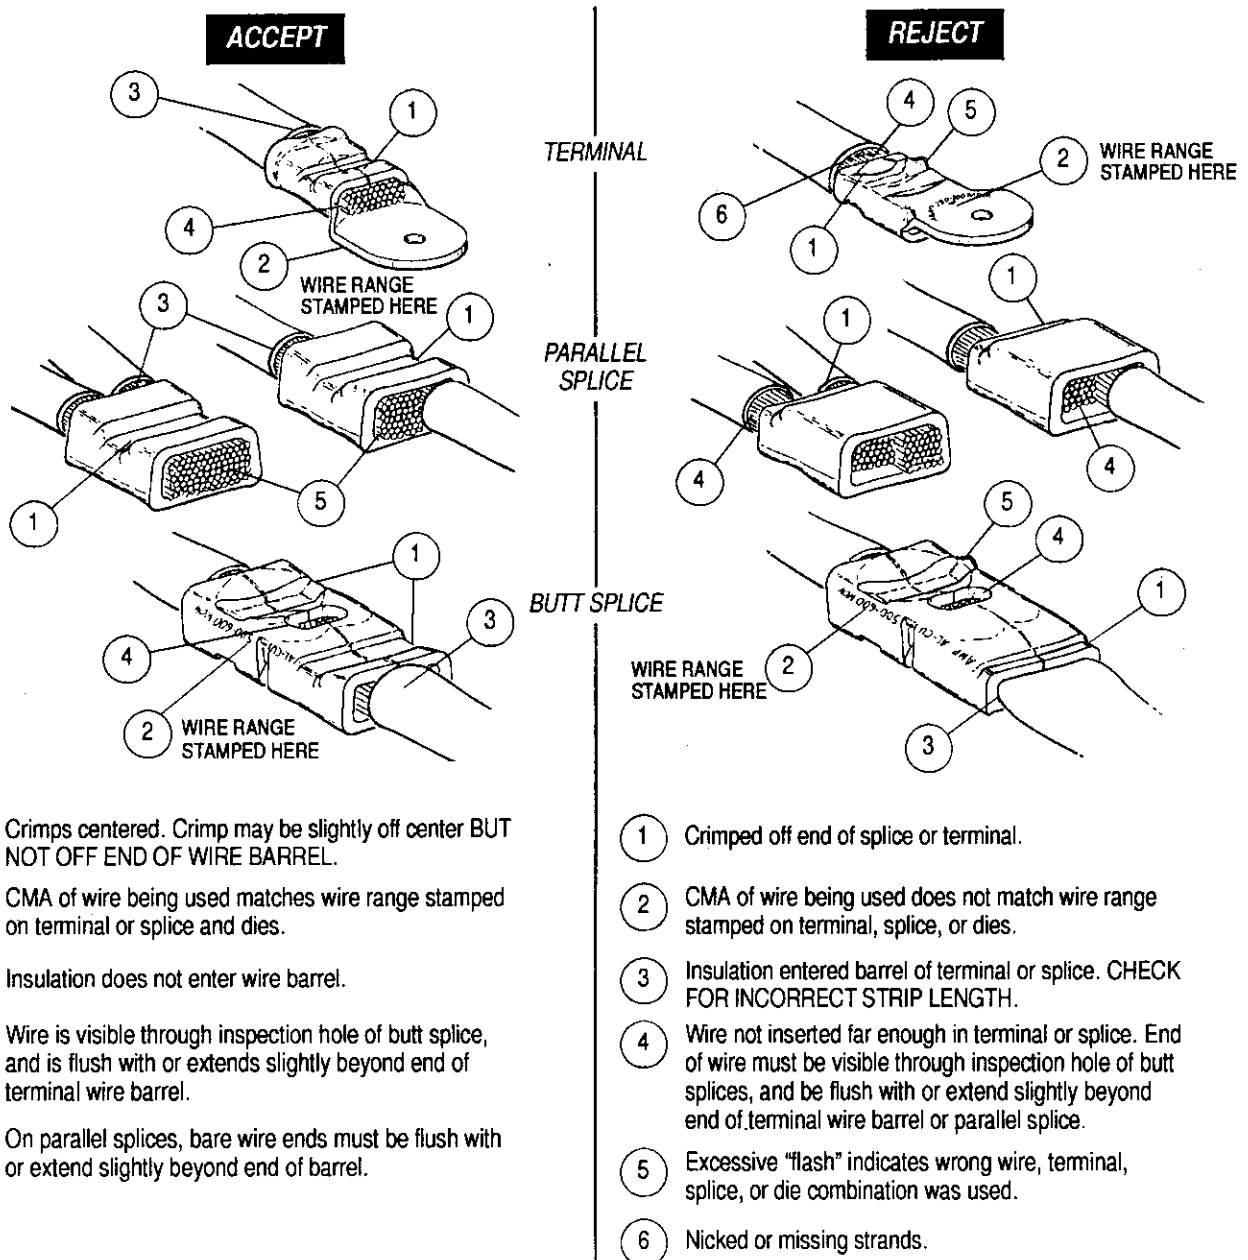

Figure 4
6. Refer to Figure 4 and Section 4, CRIMP INSPECTION.
5. Refer to Figure 4 and Section 4, CRIMP INSPECTION.
Inspect crimped terminals and splices by checking the features described in Figure 4. Use only the terminals and splices that meet the conditions shown in the "ACCEPT" column. "REJECT" terminals and splices can be avoided through careful use of the tabular information in Figure 2 and the instructions Section 3, and by performing regular die maintenance as instructed in Section 5.